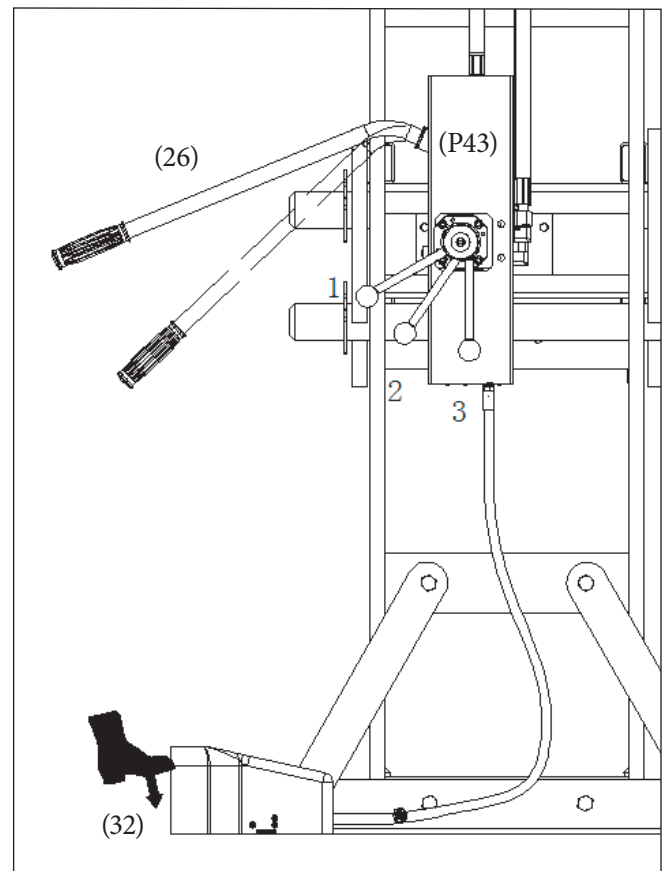

Fig. 17
- Turn the handle lever of selector valve to position 3. (Fig. 17)
- Depress the air foot valve (32). When the piston rod is not under load, the piston rod extends quickly. When the piston rod is under load, the piston rod extends slowly.
- Insert the handle (26) to the handle base (P43), Turn the handle lever of socket valve to position 3. (Fig. 17). When the piston rod is not under load, the piston rod extends quickly. When the piston rod is under load, the piston rod extends slowly.
- Turn the handle lever of selector valve to position 1. (Fig. 17)
- Depress the air foot valve (32), then the piston rod returns quickly.
- Insert the handle (26) into the handle base (P43), pumping the handle to return the piston rod quickly.
- To stop the movement of the piston rod: stop pumping the handle tube (26) or release the air foot valve (32); the piston rod will stop moving. Then turn the handle lever of selector valve to position 2. (Fig. 17)